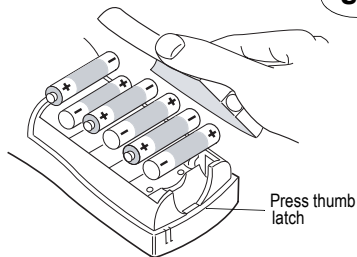

Figure 1
1. Press the thumb latch on the bottom of the labelmaker to open the battery compartment door. See Figure 1.